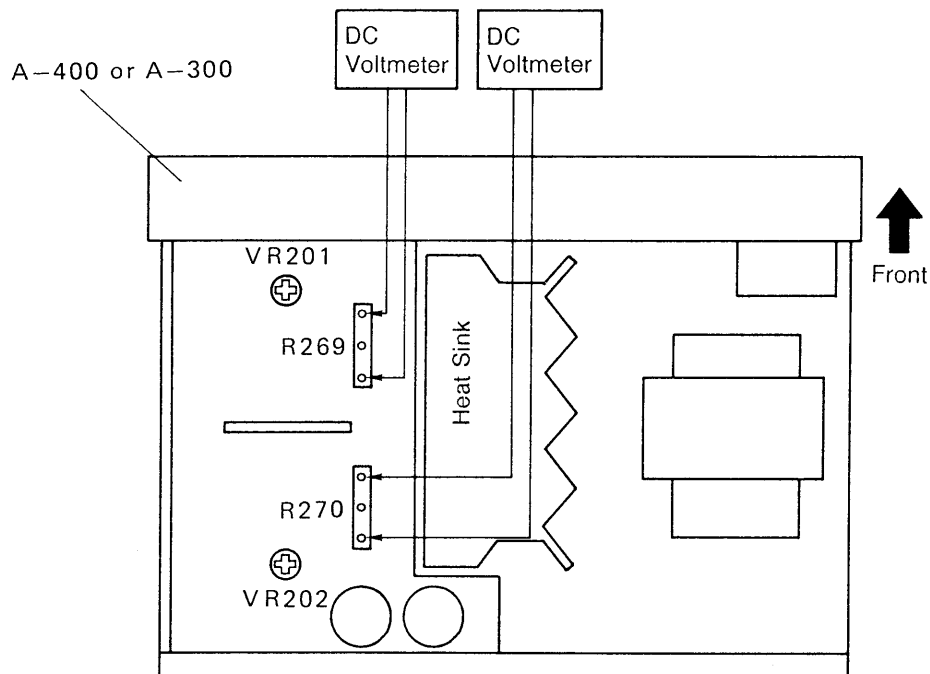

Fig. 8-1 Adjustment Drawing
1. Connect wire as shown in Fig. 8-1.